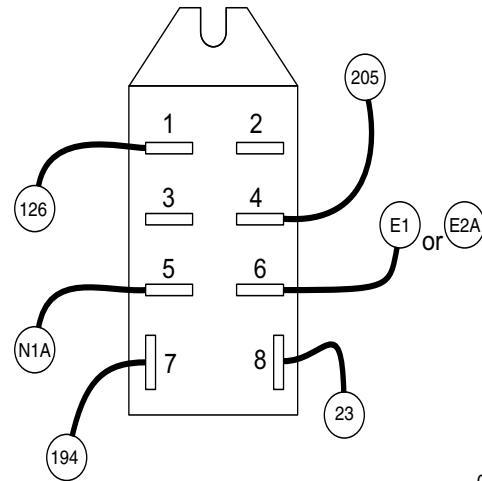

Figure 3-45. Transfer Relay Test Points
3. See **Figure 3-45**. With the wires disconnected, connect the DM test leads across relay terminals where wires 194 and 23 were connected. Measure and record the resistance.
4. See **Figure 3-45**. Using jumper wires, connect one fused jumper wire from the positive post of the battery to the relay terminal that had wire 194 and connect the other jumper wire from the negative post of the battery to the relay terminal that had wire 23.
1. See **Figure 3-45** for transfer relay wiring configuration. Disconnect all wires from the TR1 relay to prevent interaction.